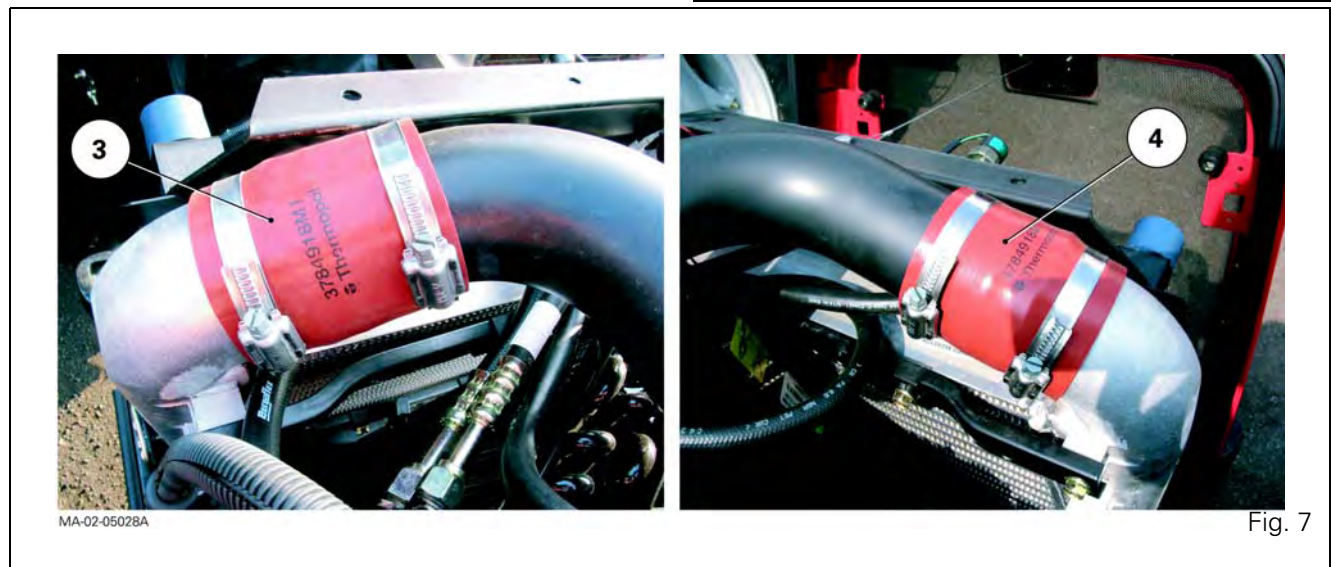

Fig. 7
18. Disconnect the air sleeves (3) (4) on the air inter-cooler located inside the grille (Fig. 7).